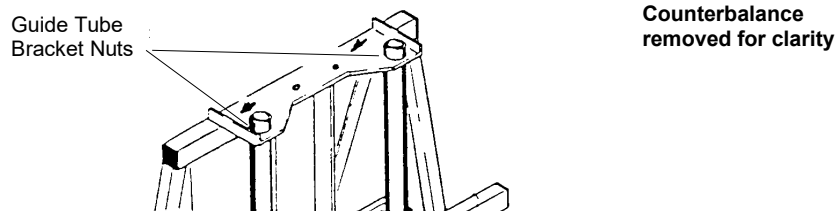

Figure 43: Aligning the Guide Tubes
- Remove set screw, which indicates original position of guide tubes. Loosen the guide bracket nuts (Fig. 43), but **do not remove** the bracket. Using a dead blow mallet, strike the bracket on the side and in the direction you wish the guides to go.